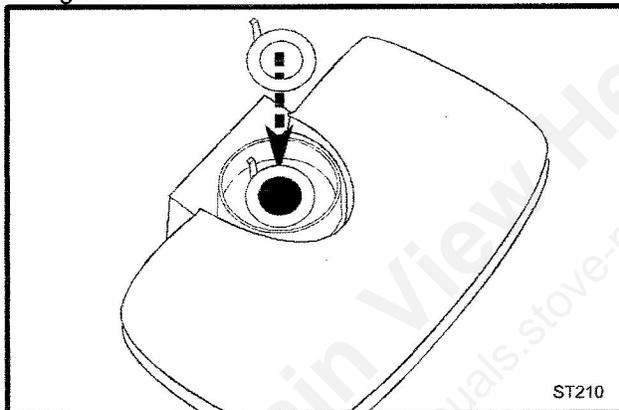

Fig. 23 Install the restrictor plate only if required for the venting configuration. Refer to page 8.
- 1. Install the Restrictor Plate.** Consult the 'Vent Run Specifications' on page 8 to determine whether the restrictor plate is needed. If so, put the restrictor plate in place within the inner flue collar as shown in Figure 23.
1. **Install the Restrictor Plate.** Consult the 'Vent Run Specifications' on page 8 to determine whether the restrictor plate is needed. If so, put the restrictor plate in place within the inner flue collar as shown in Figure 23.